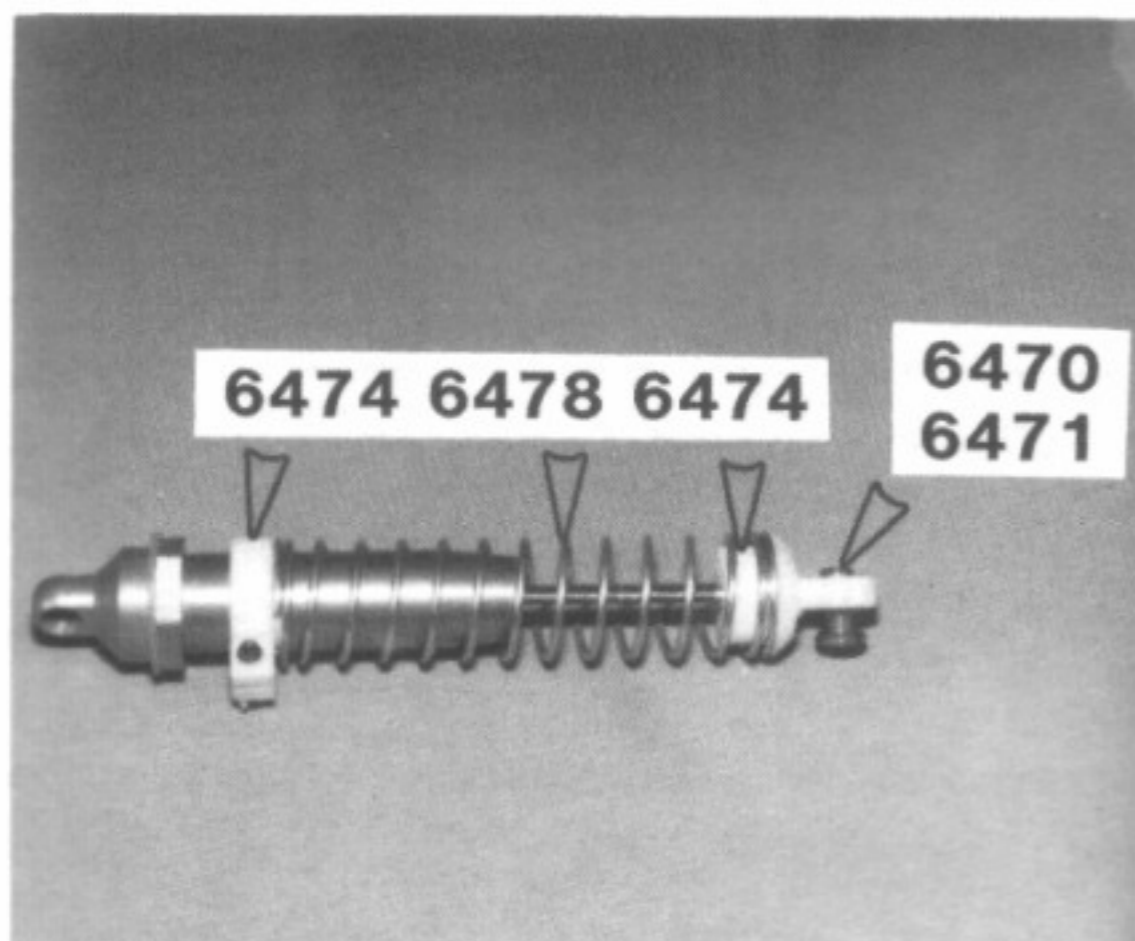

Fig. 127
□ **Fig. 127** From Bag #6-11, install the 2 #6474 spring clamps on the rear shocks. The spring should go over the thin flange. Install one with the screw head up, as shown, and the other with the screw head down. There should be a 1/4" (6.35mm) space between the collar and the body hex nut. Tighten the screws just enough to lock the collars. DO NOT overtighten. Slip on the long silver #6478 spring. There is also a long gold spring, which is stiffer than the silver spring. The silver spring will work best on most tracks, but you can experiment with the gold spring also, on your track. Take the #6471 plastic rod end and push it onto the metal ball. The easiest way to do this, is to lay the metal ball end on a table, with the flat end on the table. Set the plastic end on the ball and push it in place with your 1/4" nutdriver. Slip the spring holder on the shaft and into the spring and collapse or squeeze the spring. Then thread the plastic ball end on the shaft. You'll have to keep the shaft from rotating with a needlenose pliers. Grab the shaft close to the threads so that you don't scratch the part that rides in the "O" rings.